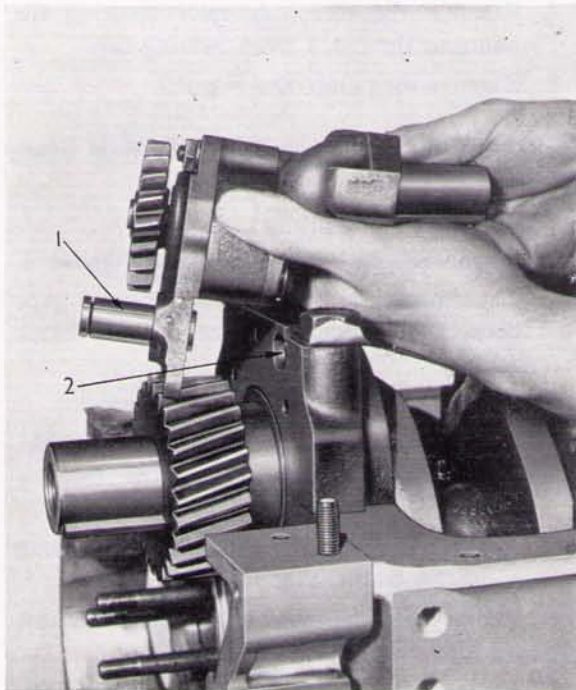

Fig. P.3.
8. Remove the pump. See Fig. P.3.